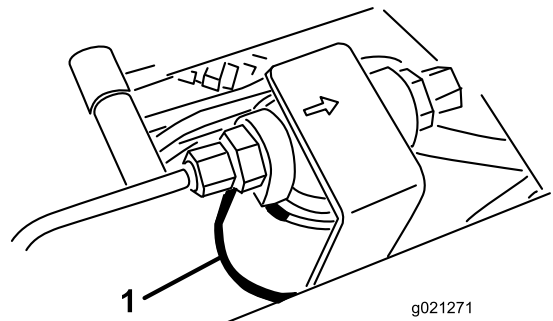
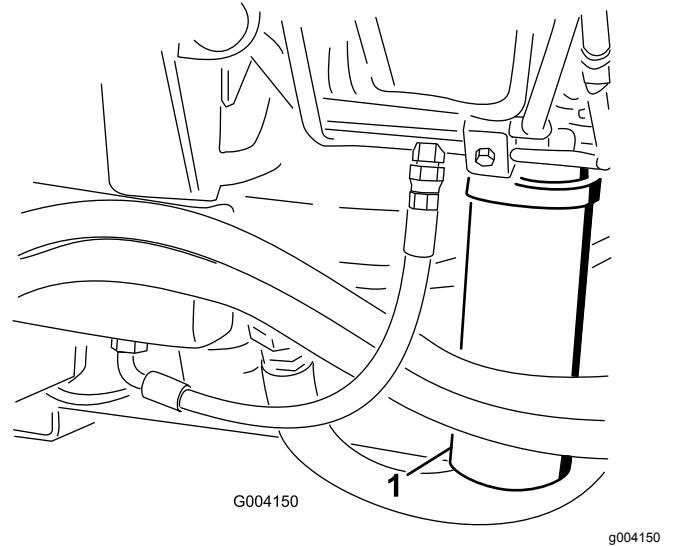

Figure 92
Figure 93
2. Clean the area around the filter-mounting area and place a drain pan under the filter (Figure 92) and (Figure 93).